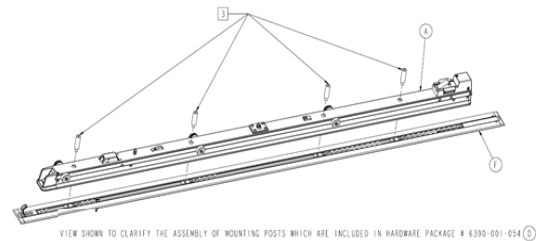

Figure 5:
6. Using a 3/8" hex wrench, remove the four fasteners from the anchor. Discard the fasteners. Disconnect the anchor to vehicle cable and remove the anchor from the vehicle; set aside for inspection (Figure 5 on page 2). Use the supplied mounting post-anchors (6390-001-150) during reinstallation.